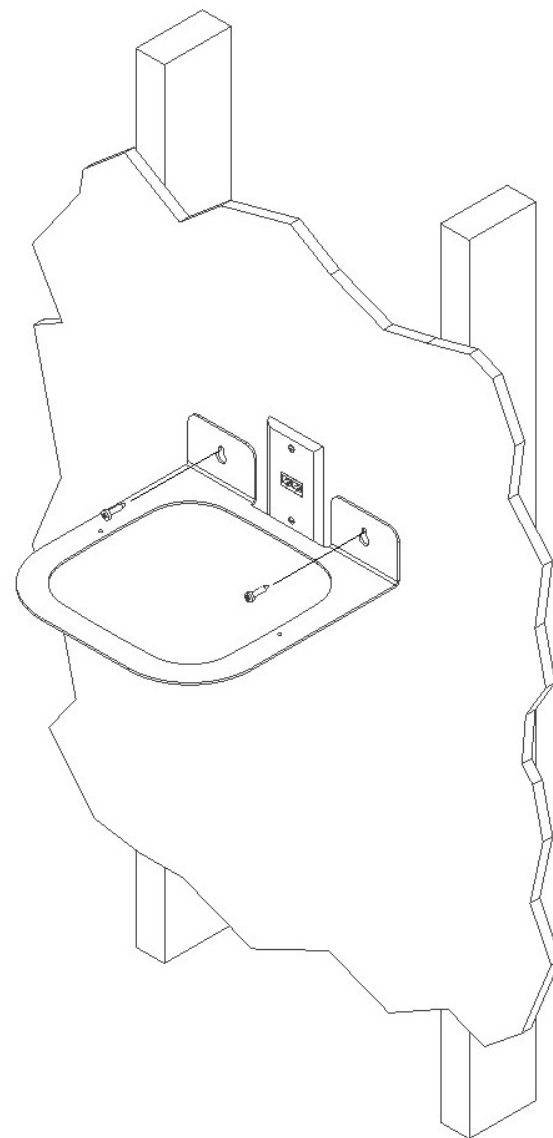

Figure 1
Step 3 - Install the *Oberon right angle wall mount* to the wall using proper mounting screws based on the construction of the wall surface (customer supplied). The *Oberon right angle wall mount* should ideally be placed so that the open area of the wall mount is located directly over top of the wall plate (Ref. figure 1).